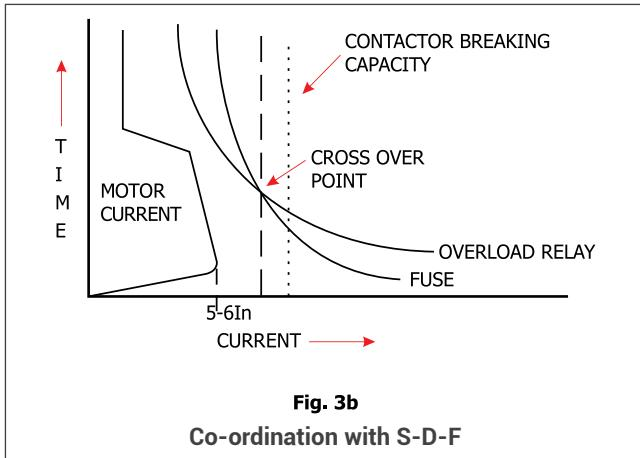

Fig. 3b
To understand various considerations for proper co-ordination, time-current characteristics of thermal overload relay, H.R.C. fuse, MCCB with only instantaneous release and MPCB are superimposed on motor starting characteristics in Fig. 3b, 4b and 5b. Intersection of characteristics of thermal overload relay and Fuse / MCCB / MPCB is termed as 'cross-over point' and corresponding current as 'cross-over current' I_{co}.
- › Thermal overload relay of appropriate 'Trip Class' is selected. Time current characteristics of the relay should remain above motor starting characteristics as shown in Fig. 3b and 4b